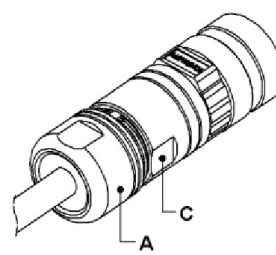

Figure 6
13. Thread and tighten seal-nut (A) onto backshell (C) as shown in Figure 6. Use a 24mm open ended wrench for the backshell, and a 25mm open ended wrench for the seal-nut.